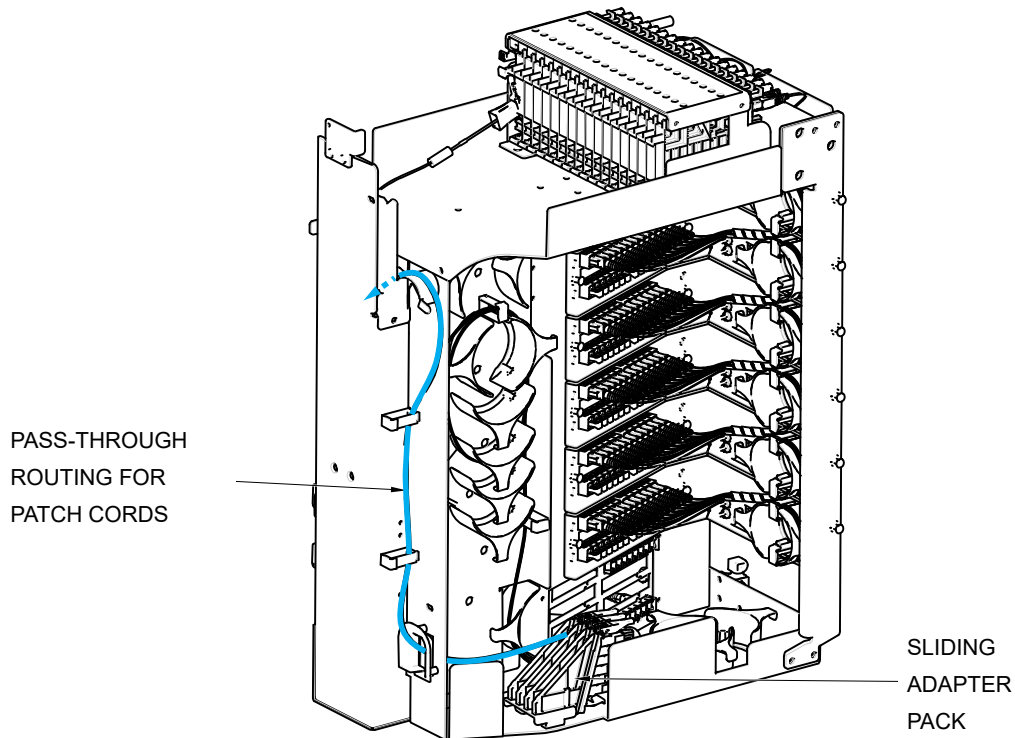

Figure 32. Routing Pass-Through Patch Cord From Sliding Adapter Pack
16.1.10 Route the pass-through patch cord to the front side of the swing-out assembly as shown in Figure 32.